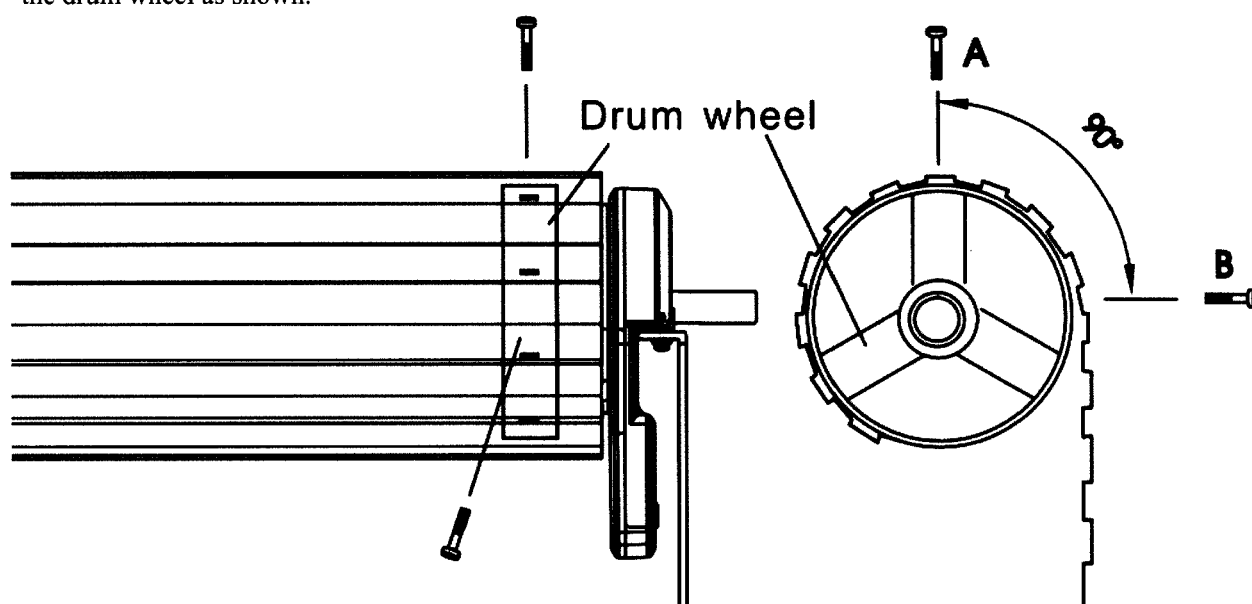

Fig 8
- 2.2 With the garage door in the **fully closed** position, mark the curtain at points "A" and "B" ensuring that the fixing points are at least 90 degrees apart. (Fig.8)
- 17.2 Using Figure 8 Cable, strip back both ends of the cable and connect 2 strands of one end to terminals 9A & 9B located on the Control Board. (Fig.2)
- 18.6 Using Figure 8 cable, strip back and connect the 2 strands of one end of the cable to each of the 2 terminals located on the outer cover of each Safety Beam.